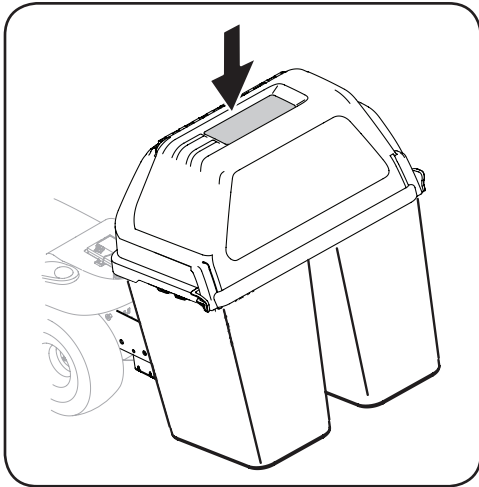

Figure 5-1
1. While mowing, periodically stop and check the viewing window on top of the grass catcher cover. See Figure 5-1.